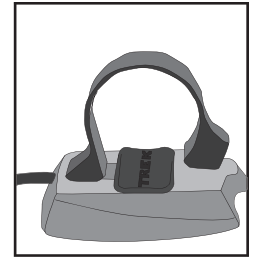

Figure 4- Clamp and friction pad in computer base
3. Insert the handlebar clamp into the back of the computer base (Figure 4) and slide it towards the front of the base.